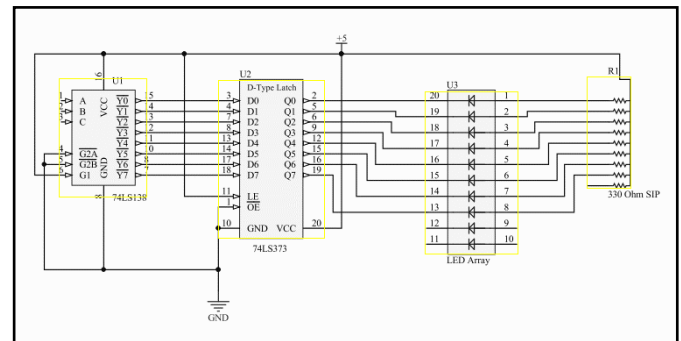

Figure 1 – "Lab02-Fig1"
1. First, I connected a wire to the 5V port on the power supply, then I assembled the circuit that was seen in the pdf file "Lab02-Fig1" (Figure 1). This part of the lab featured DIP Switches, 74LS138 (3-to-8 Decoder), 74LS373 (Octal D-Latch), a 320 ohm resistor, and SIP resistors, making sure all chips were grounded. After I was sure I had the circuit wired correctly, I connected the circuit to power. An image of my circuit is included below:
3. The second part of this lab was to replace the DIP switches with two buttons. This circuit was named “Lab02-Fig1”. One would act as the clock, and the other would act as the CLR for the LED array. For this part of the lab, I observed that if the CLR button was held down, it would disable the CLR and it would allow data to be inputted to the memory every time the clock button was pressed. Once the CLR was released, clock cycles would now shift data to the deleting bit data.